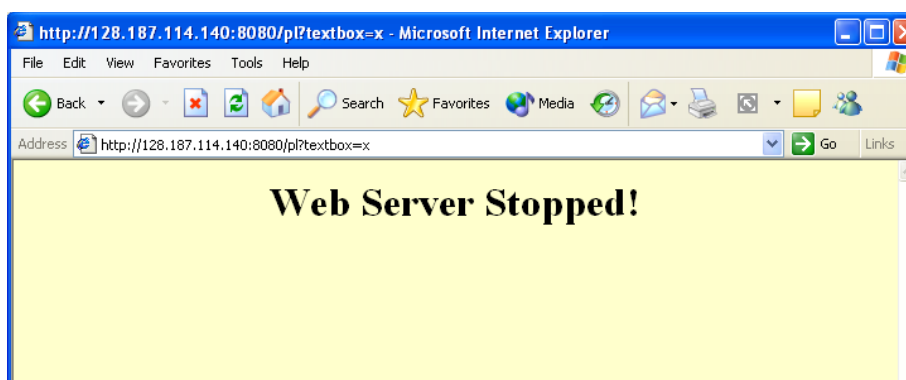

Figure D-14: Web Server Stopped
5. You can type in “x” or “X” in the text field and click “Submit” button to terminate the Web server. You will see the Web page shown in Figure D-14, indicating that the Web server is stopped. Your terminal program will return back to the BIST Main Menu.